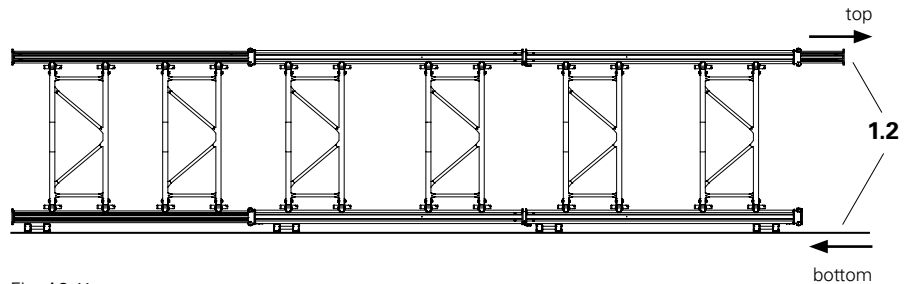

Fig. A3.11
9. Detach lifting gear. (Fig. A3.11 - A3.11b)